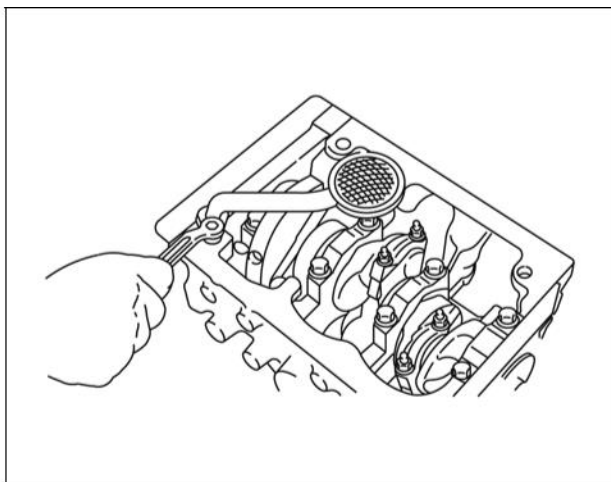

Figure 5
- 8. Remove oil pick-up tube and strainer (Figure 5). Discard gasket.